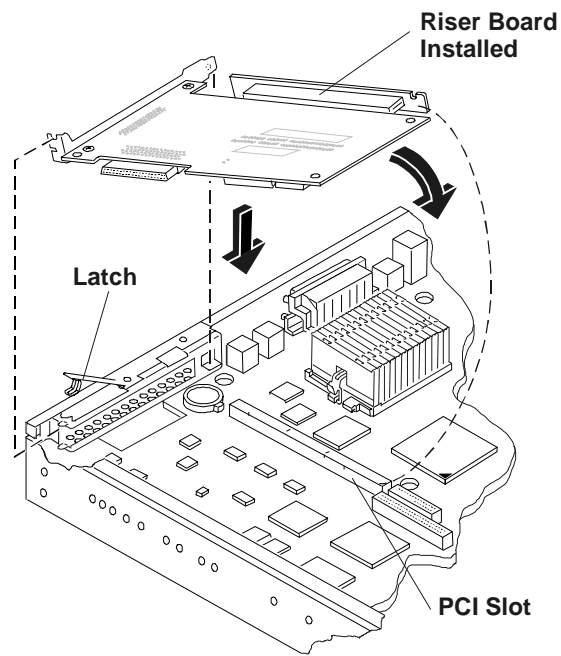

Figure 5-5. Inserting PCI Board-Riser Board
11. Slide the accessory board into the PCI slot on the riser board as shown in Figure 5-5.
12. Insert the PCI board and riser board into the PCI connector on the system board. See Figure 5-5.